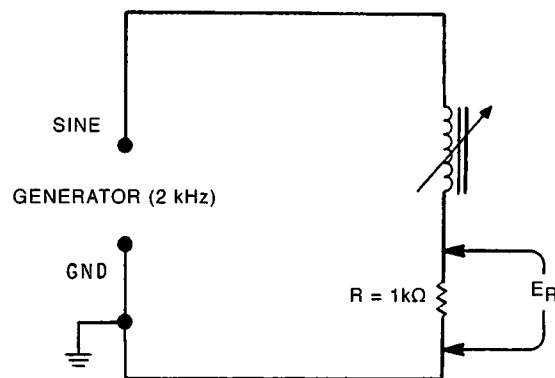

Figure 4-31
23. Next, interchange the leads from the generator so that the circuit configuration appears like the one in Figure 4-31. Measure the voltage across the resistor and record it in the space provided below: